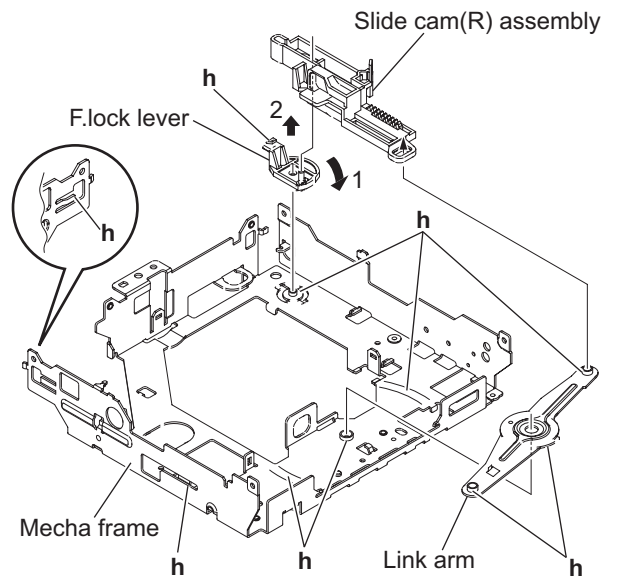

Fig.14
### 3.2.7 Removing the F.lock lever and slide cam (R) (See Fig.14 and 15)
- From the top side of the mecha frame, take out the slide cam (R) assembly in an upward direction. (See Fig.14.)
- Rotate the F.lock lever in the direction of the arrow 1, and then take out the direction of the arrow 2. (See Fig.14.)
When attaching the slide cam (R) assembly, the f.lock lever and the link arm apply grease to the section **h**. (See Fig.14 and 15.)